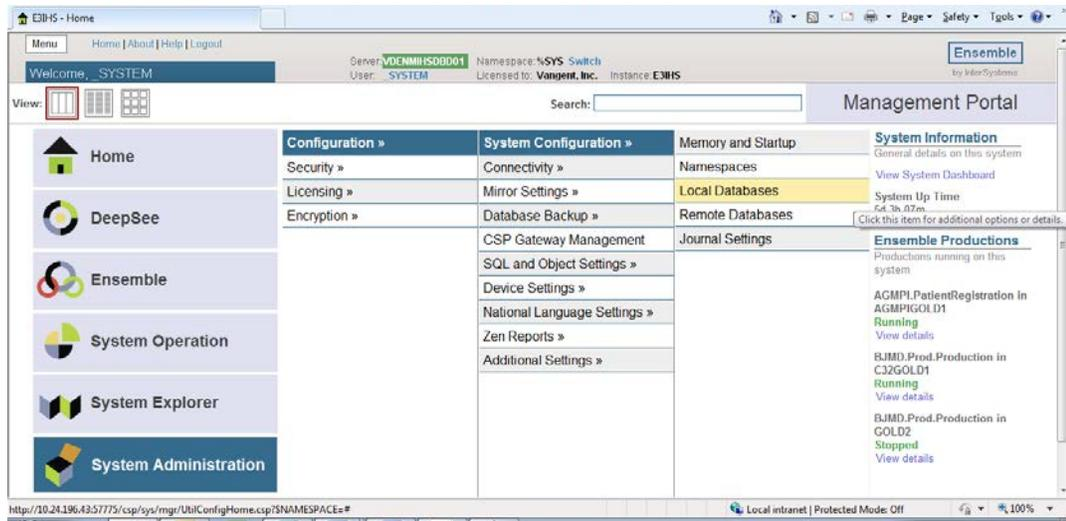

Figure 4-14: Configuration page with Local Databases link highlighted
1. From the **System Administration Menu**, click **Configuration**, then click **System Configuration**, then click **Local Databases**, as shown in Figure 4-14.